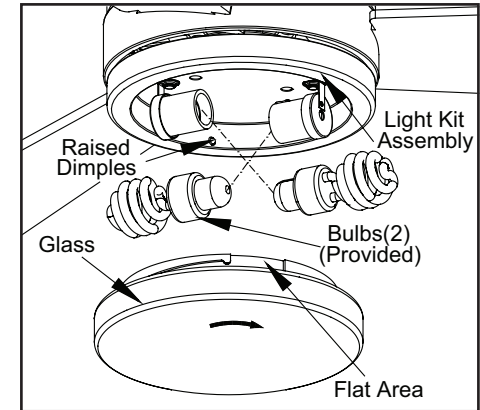

Figure 14
4. With power off, install the two fluorescent bulbs (Max. 13W or equivalent LED or incandescent bulbs) by screwing into the light bulb sockets. (Figure 14)
5. Place the glass shade into the light kit assembly, aligning the three flat areas on the top flange of the glass shade with the three raised dimples in the light kit assembly. Turn the glass shade clockwise until it stops. (Figure 14)